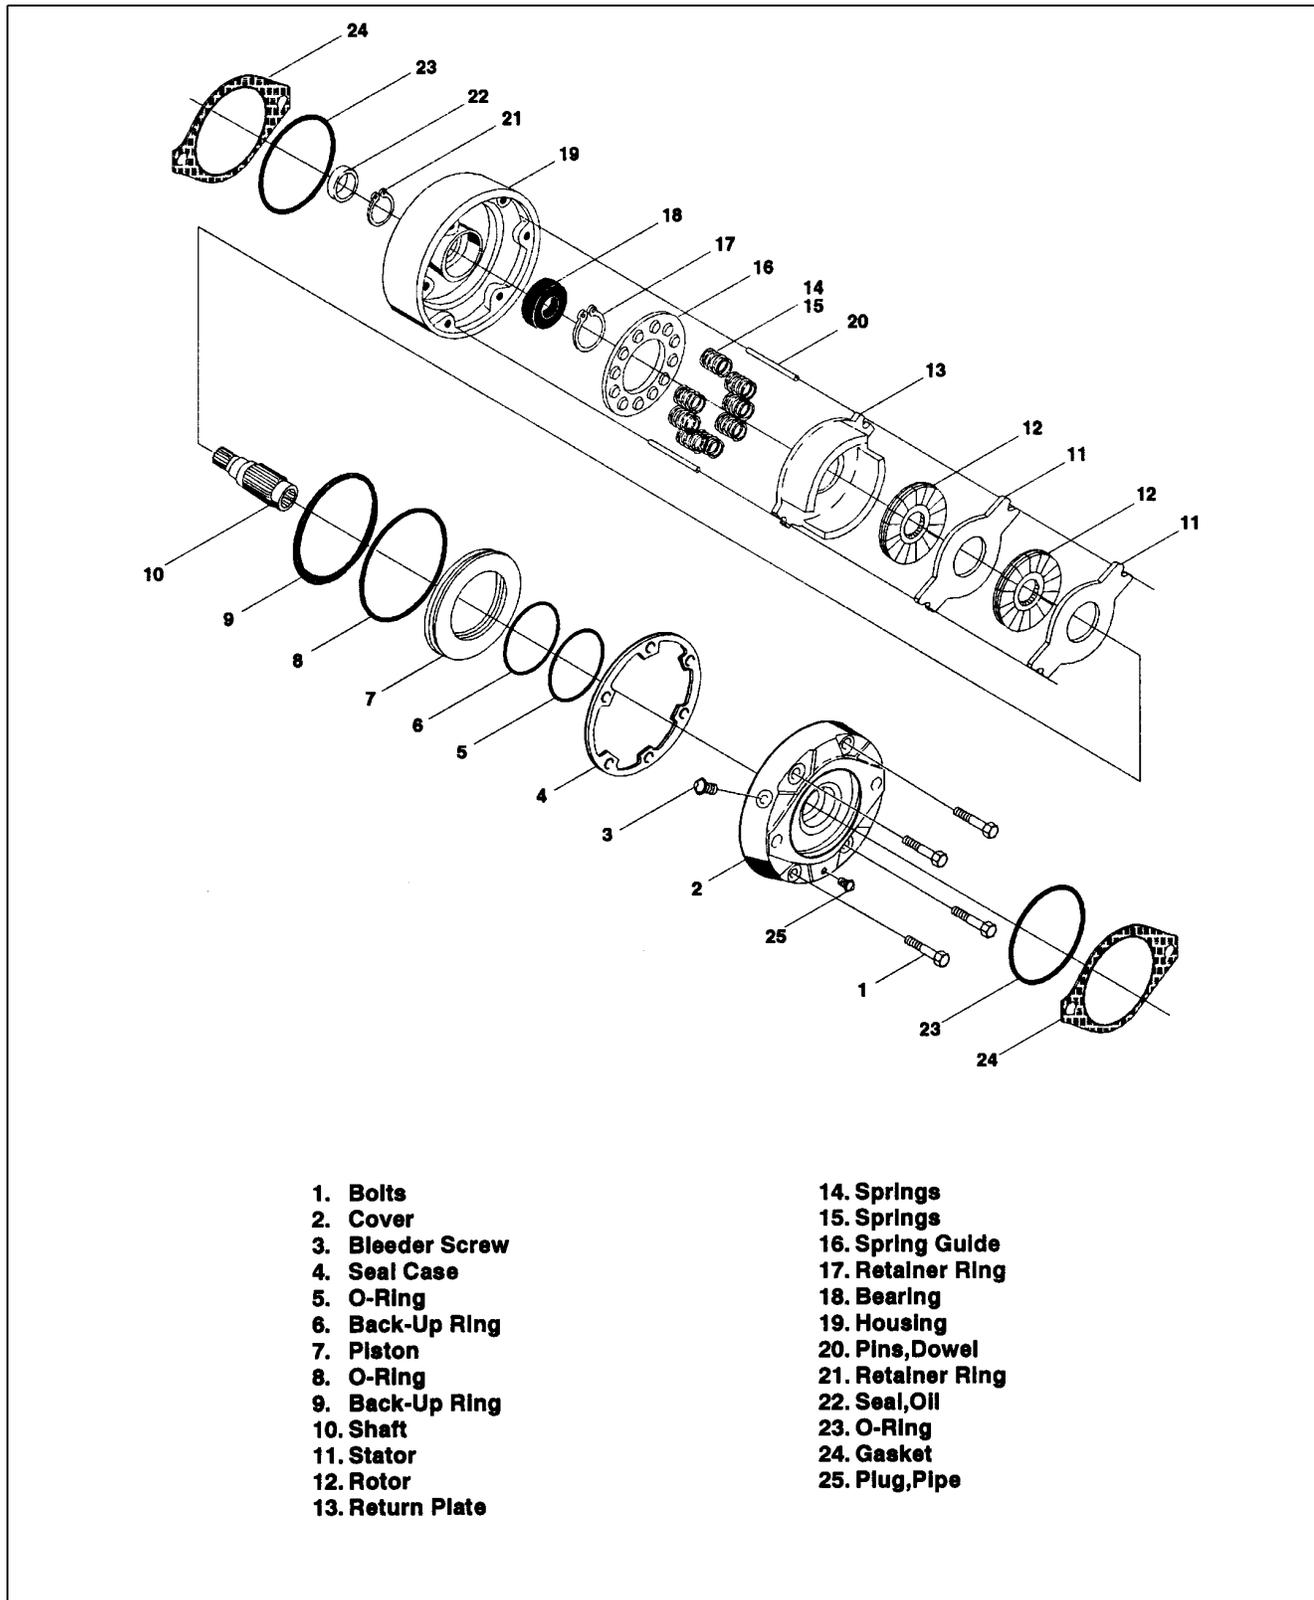

Figure 2-45. Drive Brake, Mico. (Machines Built From S/N 33476 To Present)
2.31 SWING BRAKE, MICO. (MACHINES BUILT FROM MAY 1992 TO S/N 33476) (SEE FIGURE 2-45.)